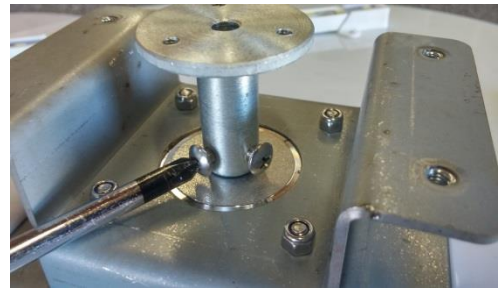

Figure 4: Removing the set collar
2. Remove the set collar by loosening the two set screws on the side of the set collar. (See Figure 4)